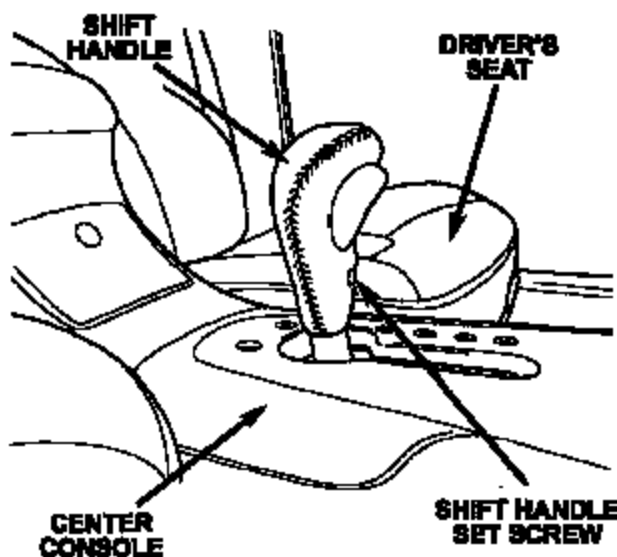

Figure 2 – LH with Cobra Handle & AutoStick Shown
4. Using an allen wrench, loosen the shift handle set screw (Figure 2).
5. Using an allen wrench, loosen the set screw in shift handle (Figure 2).